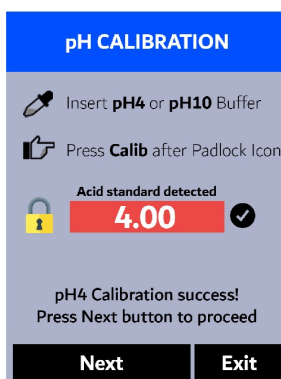

Figure 47.
17. If the calibration succeeds, a checkmark (✅) and a "pH4 Calibration success!" or a "pH10 Calibration success!" message will appear (Figure 47). Otherwise, a warning message is displayed.